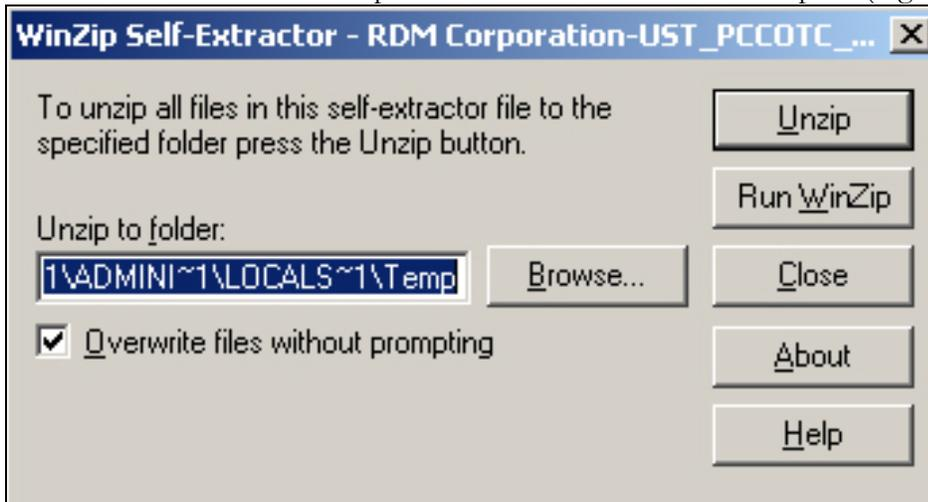

Figure 6.10.6
4. Click **'Close'**. The WinZip Self-Extractor archive window opens (Figure 6.10.6)